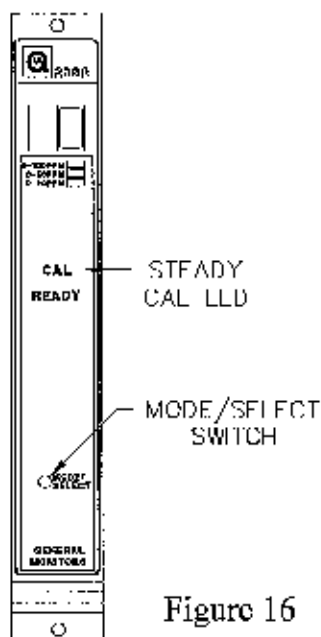

Figure 16
- Enter the Calibration mode by following the procedure for entering the Calibration Check mode, continuing to press and hold the Mode/Select switch until the **CAL** LED turns on steady (about fifteen seconds, figure 16).
- 2 Place the unit in the CAL Mode per the instructions on pages 18 & 19 of this instruction manual (figure 16).